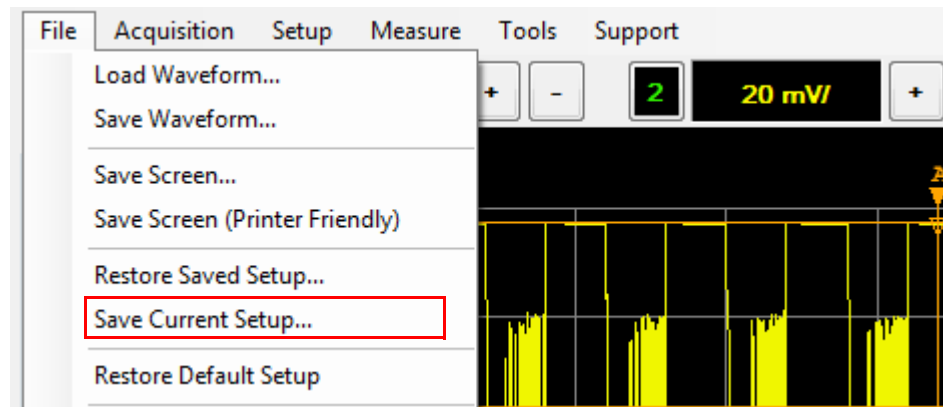

Figure 2-138 Save Current Setup... selection in the File menu
- 1 Select **File > Save Current Setup...** on the toolbar to save the current 8990B state to your desired directory in an XML file as shown in Figure 2-138.